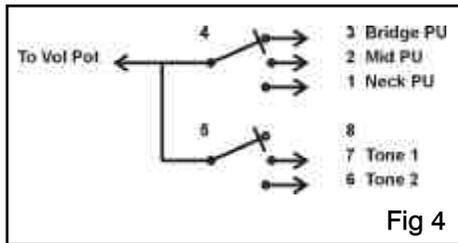

Fig 4
- b The physical layout of pickup switches will vary from one instrument to another, although their electrical function will always be similar. The switch fitted to most three pickup instruments will normally be a two pole, three way type, with the two poles being connected together as shown in fig 4. The only connection you will need to make to this switch is to the poles - if you spend a few minutes following the wiring in your instrument and comparing it to figures 1 and 4, all should become clear.